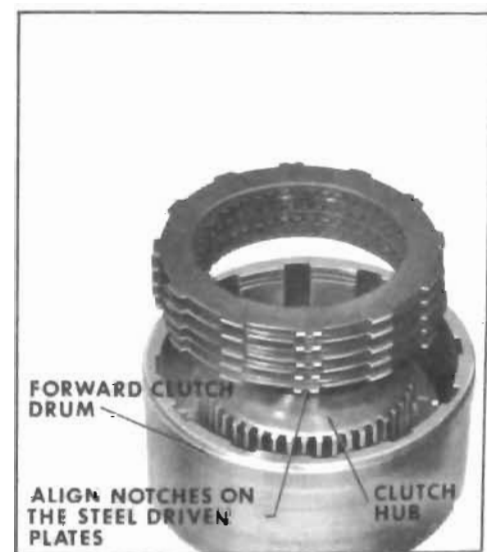

Figure 5-232
9. Align notches on steel driven plates. Install steel driven plates and lined drive plates alternately, beginning with a steel driven plate. See Figure 5-232.